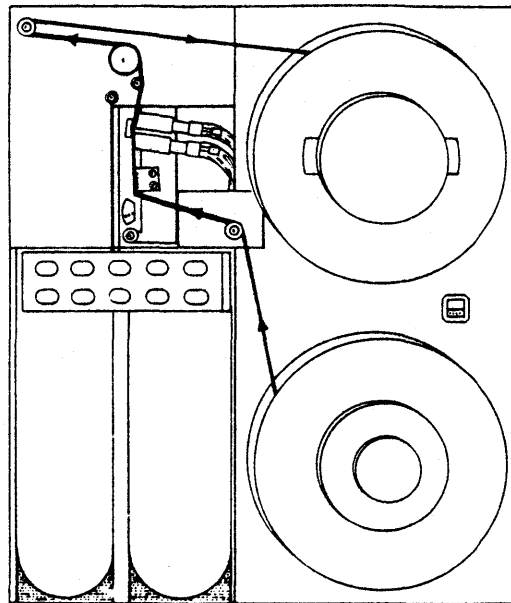

Figure 5. Tape loading
- _____ e. Manually rotate the machine reel hub clockwise and thread the tape as shown in figure 5.